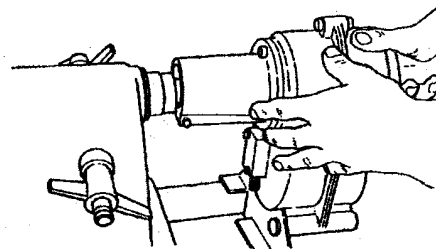

Fig.9
4. Fit the Speed Reducer onto the headstock spindle, making sure the quill clamp slides completely and squarely on the Mark V quill. See Fig.9.